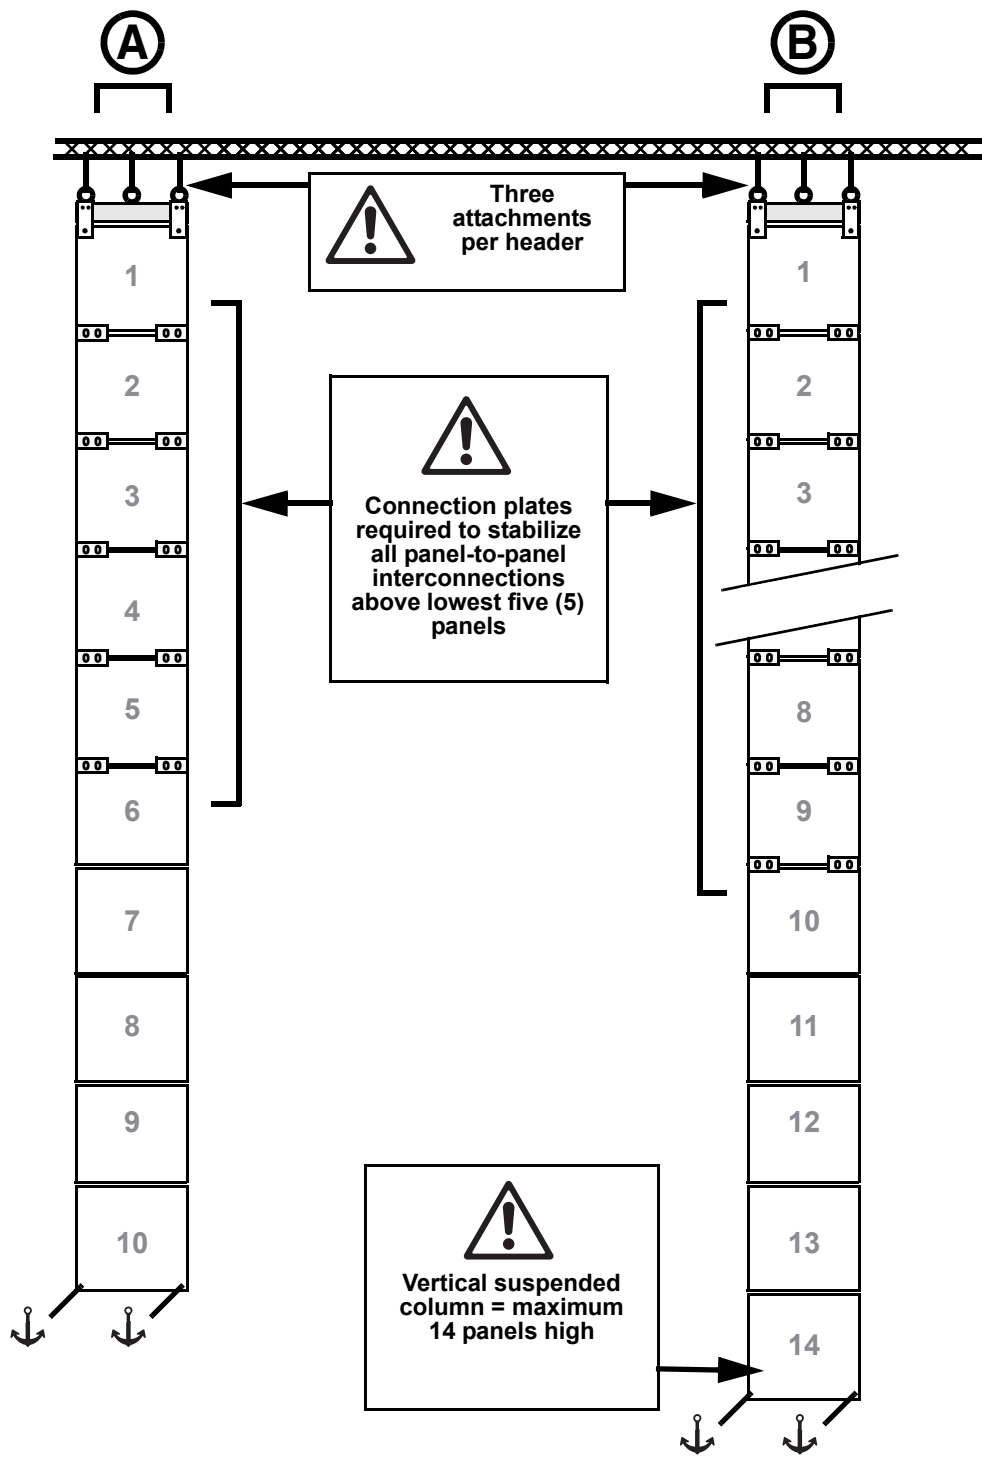

Figure 7: Single-column configurations
In any column of panels that is not joined to other panels at one or both sides and that is more than five (5) panels high, corner connection plates must be installed at all times on all four corners of every panel that is above the five (5) lowest panels in the column. See also Figure 7 on page 14.
See **A** and **B** in Figure 7. You may suspend a single column of panels maximum fourteen (14) panels high from a single header. The column can hang alone without panels being fastened at the sides to other panels. In this type of installation:
1. With reference to Figure 7, obtain enough corner connection plates available from Martin™ to stabilize the column. You will need two connection plates for each panel above the lowest five panels. The lowest five panels can hang from their integral fastening posts without connection plates.